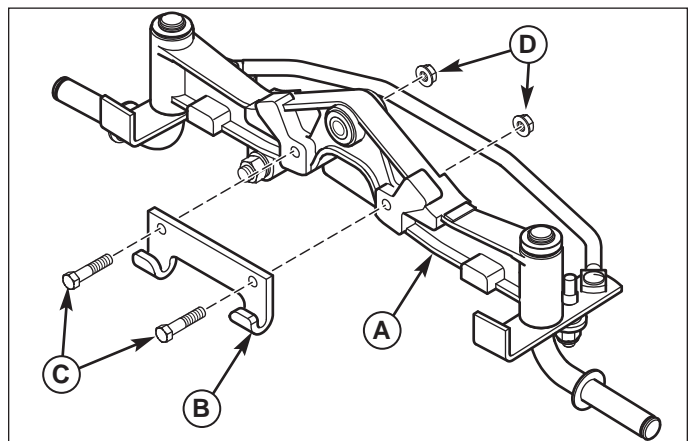

Figure 10 J-Hook Installation
18. Install j-hook (B, Figure 10) to new axle (A) using two 7/16-14 x 2 capscrews (C), and two 7/16-14 lock nuts (D) as shown. Tighten lock nuts to 32 ft. lbs (44.2 Nm).